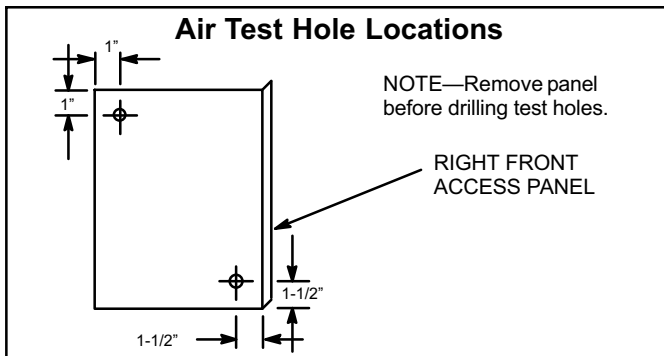

Figure 5. Air Test Hole Locations
2. Drill two 5/16" (8 mm) air test holes in the right front access panel; hole locations are shown in figure 5. Replace the panel.